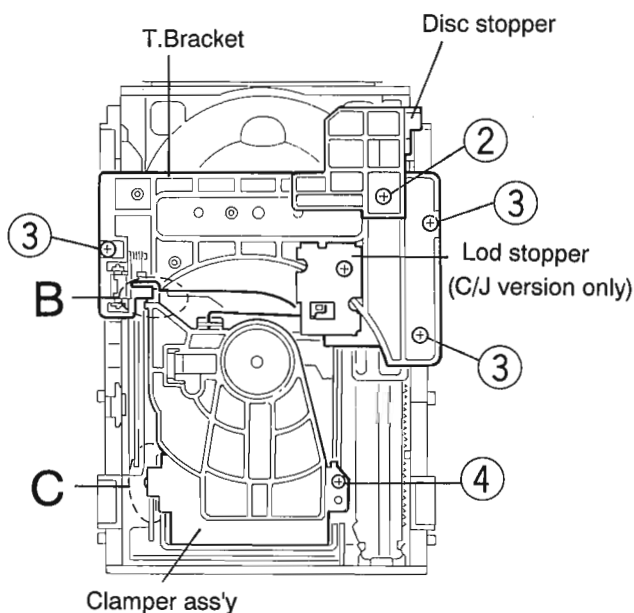

Fig.3-37
5. Remove the screw ② retaining the Disc stopper (See Fig.3-37).
6. Remove the three screws ③ retaining the T.bracket (See Fig.3-37).
7. Remove the screws ④ retaining the clamber assembly (See Fig.3-37).